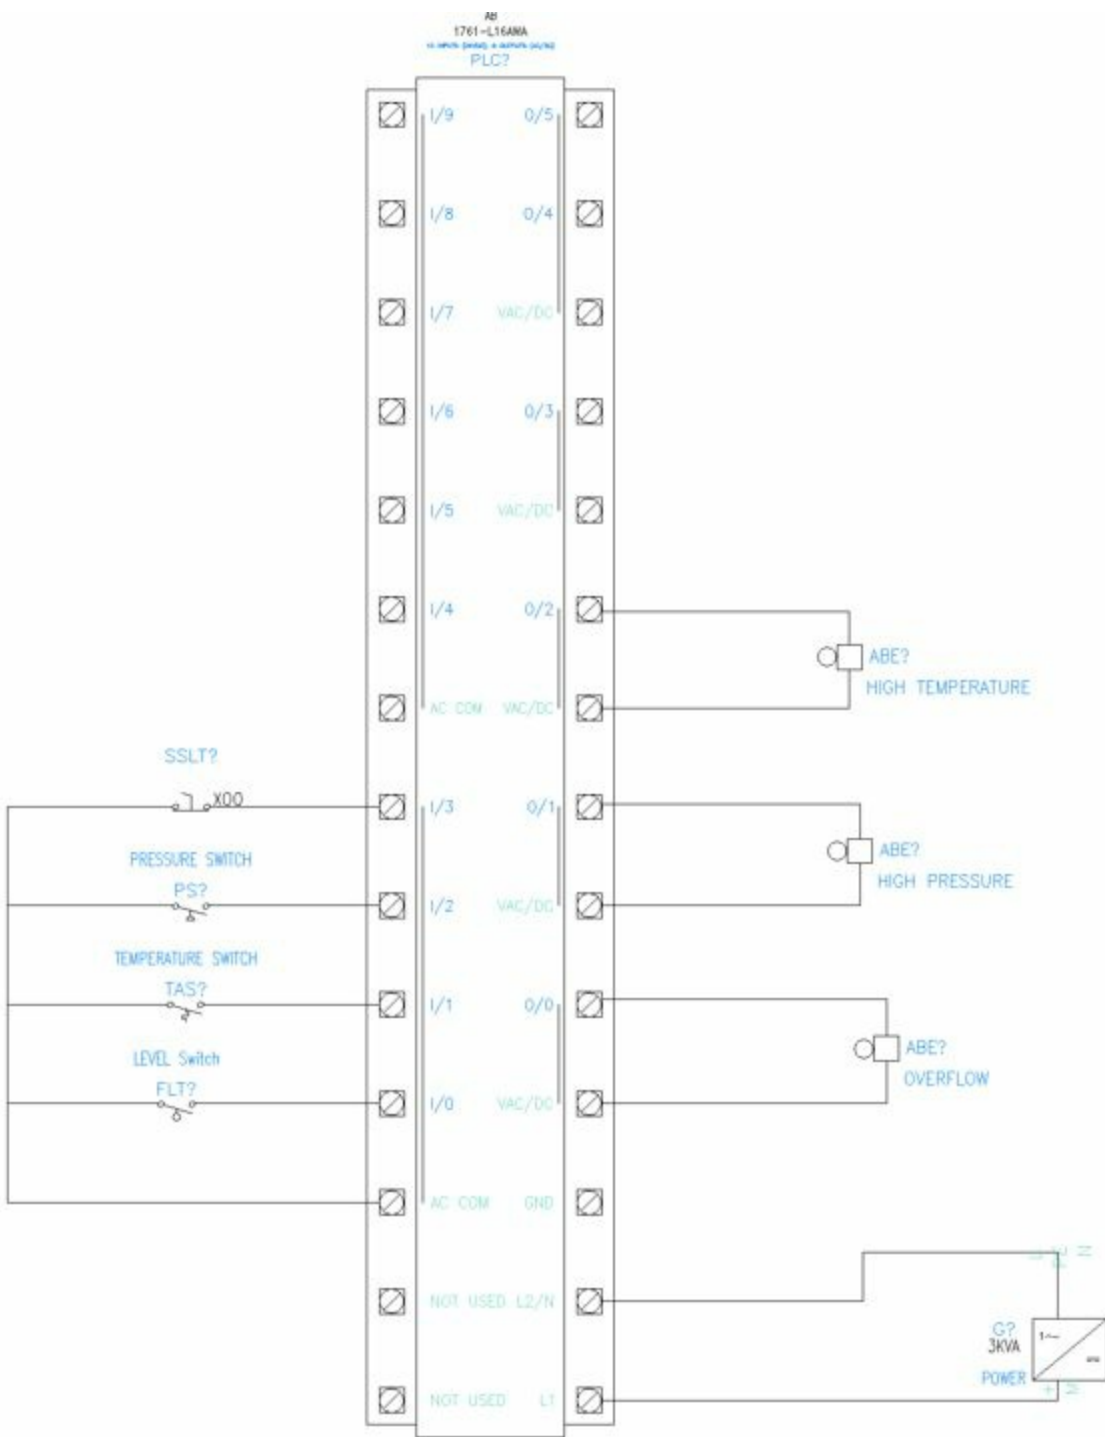

Figure-62. Practical 3
- After connecting all the components, the complete circuit will be displayed as shown in Figure-62.